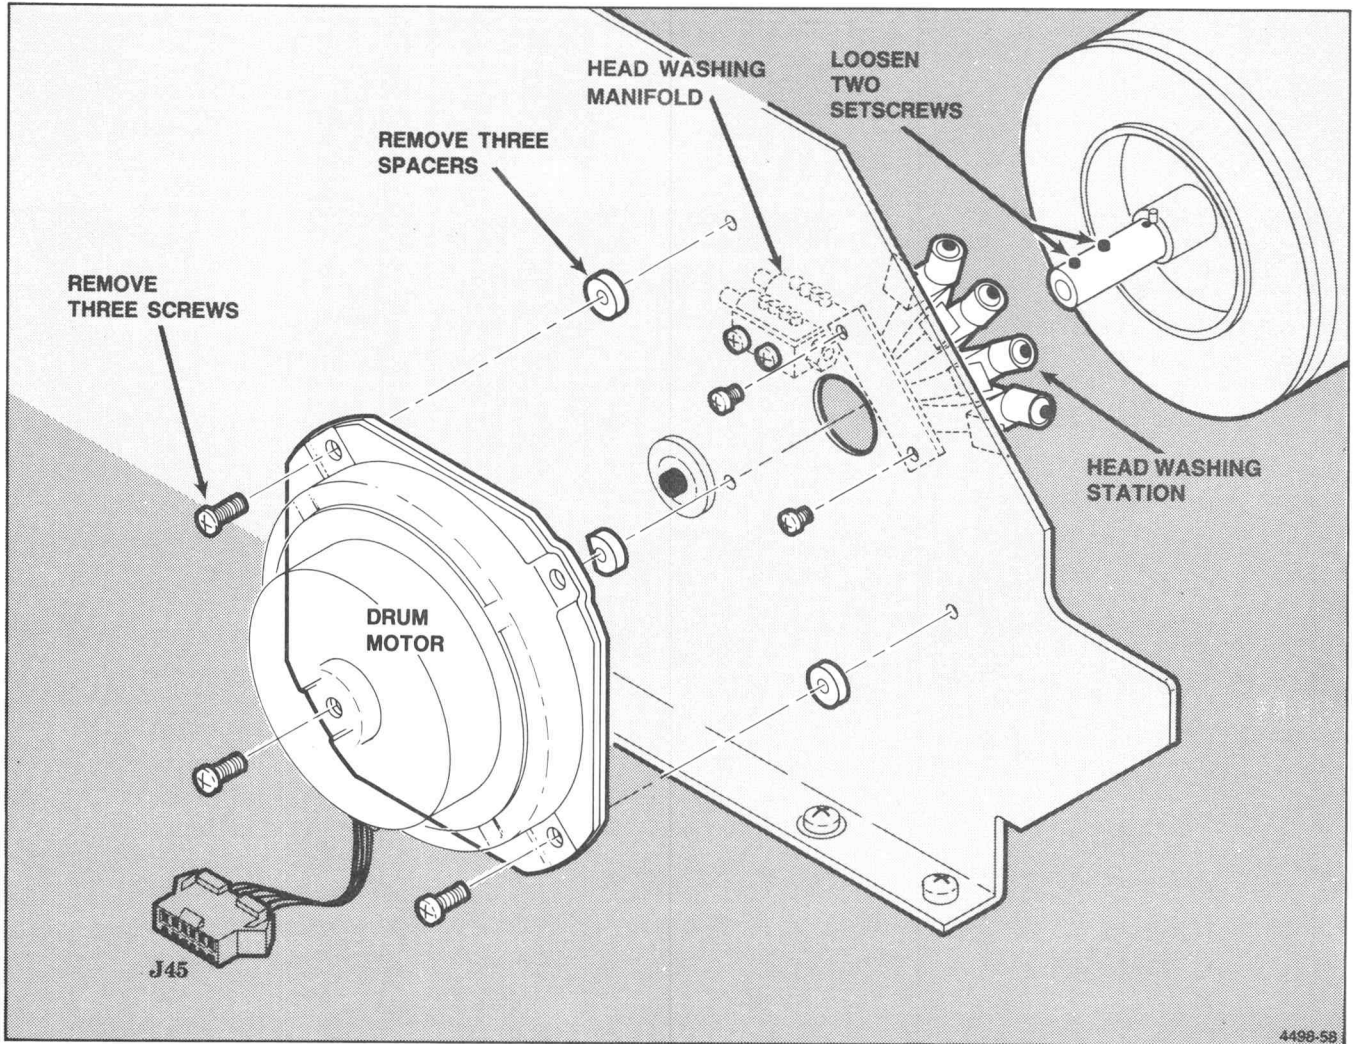

Figure 7-18. Drum Motor and Head Washing Station Removal.
4. Loosen the two set screws that attach the drum motor shaft to the drum shaft. See Figure 7-18.